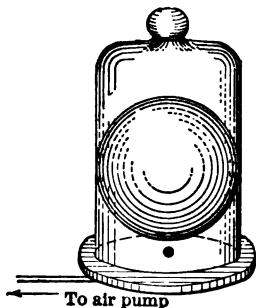

FIG. 45. — Gases expand when pressure upon them is decreased.
55. Expansibility of Gases. Solids and liquids have a definite volume, but gases expand and fill the vessel in which they are placed. The space they occupy depends upon the pressure to which they are subjected. A half-inflated rubber ball under a bell-jar expands as the air is pumped out of the jar, since the pressure on the ball is reduced. See Fig. 45. Since gases expand when heated and also when the pressure is reduced, it is necessary when measuring gas volumes to consider both the temperature and the pressure to which they are subjected. To prevent confusion, 0°C. and 760 mm. pressure are accepted as standard. When we refer to a volume of gas that measures 1000 c.c. at standard temperature and pressure (S.T.P.), we mean that when the temperature of the gas is 0°C. and the pressure upon it is equal to 760 mm. of mercury, its volume measures 1000 c.c.